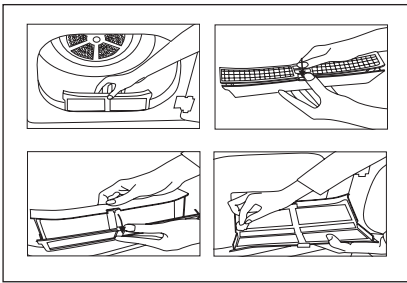

Figure 1
2. a) If the product's lint filter can be opened as shown in Figure 1, remove the filter by pulling it up and open the filter.